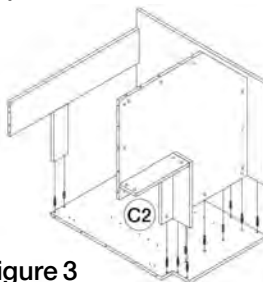

Figure 3
5. Repeat the processes above for the now assembled parts by assembling them onto the side panel (C2). (Figure 3)